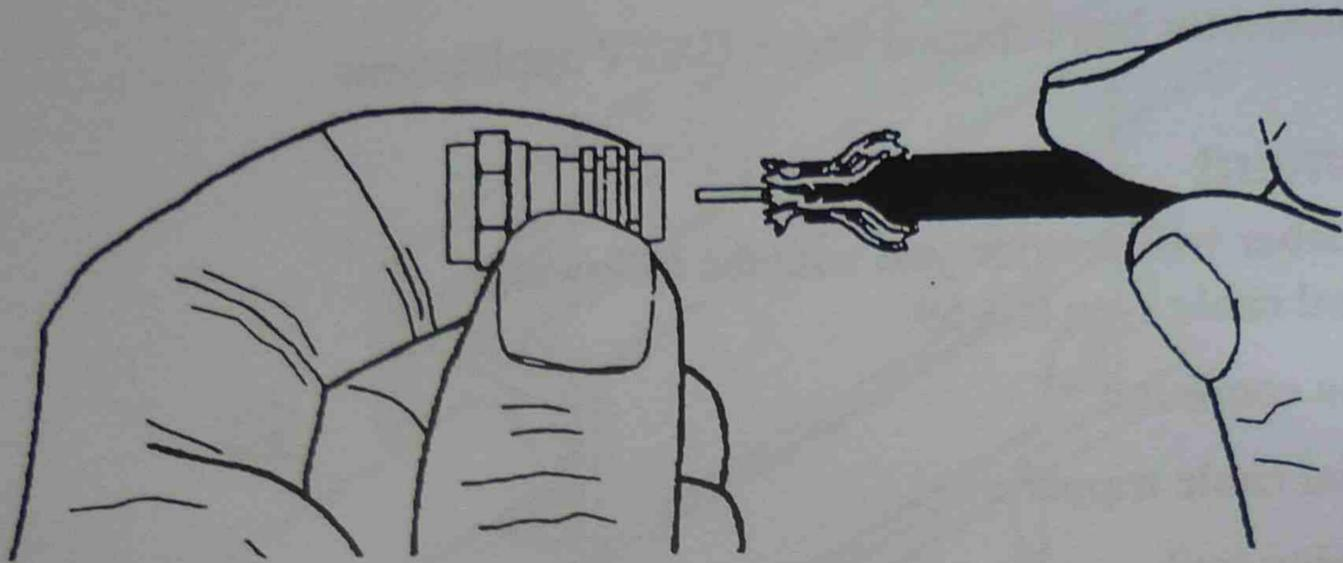

Figure 88 Fitting connector to cable
5. Slide the F connector onto the cable as shown in Figure 88, until the dielectric is even with the shoulder of the attachment nut. Ensure that the connector completely covers all the exposed braid.